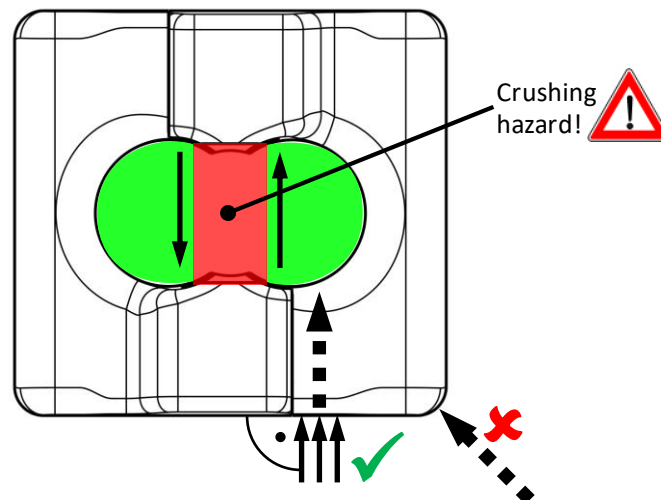

Figure 1: Open the pre-assembled connector
The halves are manufactured as a matched pair and should be used together. For simple identification each half is marked by a number (as shown in figure 1).
- Separate the delivered connector parts. Instructions for removing the lock halves are given in 4.3. Open the connector by sliding the halves apart. Hitting the connector side vertical on a flat massive surface simplifies this (the 3 bottom arrows in Figure 1 show the best hitting area). Take care, that nothing is in the opening area when the connector opens (Figure 1)!